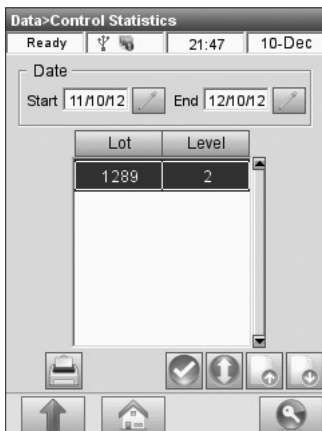

Fig. 6-14 Controls Statistics
3. In the **<Data>Control Statistics>** screen (Fig. 6-14), press  to select a **<Start>** date and **<End>** date for the statistics report to be printed.
6. To print results for individual lots, highlight the desired lot and level (Fig. 6-14).